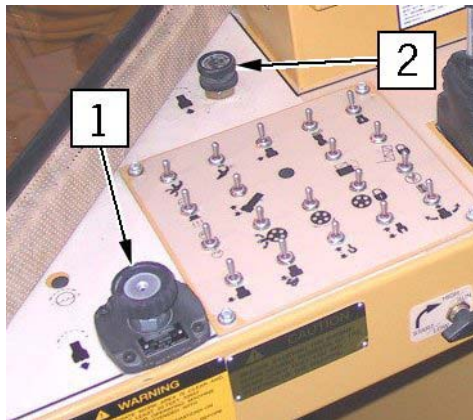
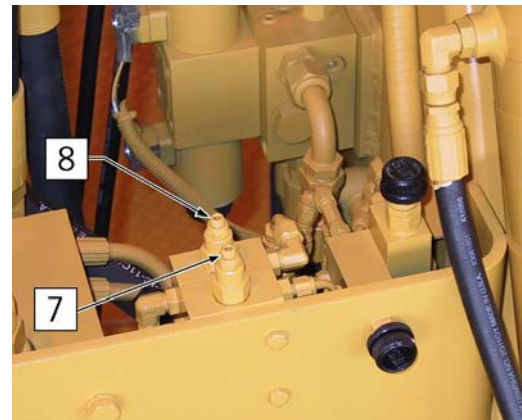

Fig. 7-14 Operator's Control Console - Left Side
Fig. 7-15 Mast "A" Frame - Engine Side
- "C" ports are connected to Max. Pulldown Relief Valve 411774 (item 7, fig. 7-15) This relief is set at 2500 PSI (172 bar). Max. pulldown relief is a vented relief that is controlled by the remote pulldown relief valve 57319 located in the cab (item 1, fig. 7-14).
- Remote pulldown relief 57319 (item 1, fig. 7-14) is infinitely variable from 0-2500 PSI (0-172 bar).